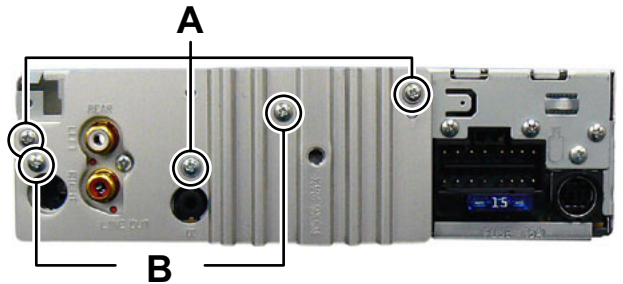

Fig.2
#### 3.1.2 Removing the HEAT SINK (See Fig.2, 3)
- (1) Remove the three screws **A** and the two screws **B** attaching the HEAT SINK. (See Fig.2)